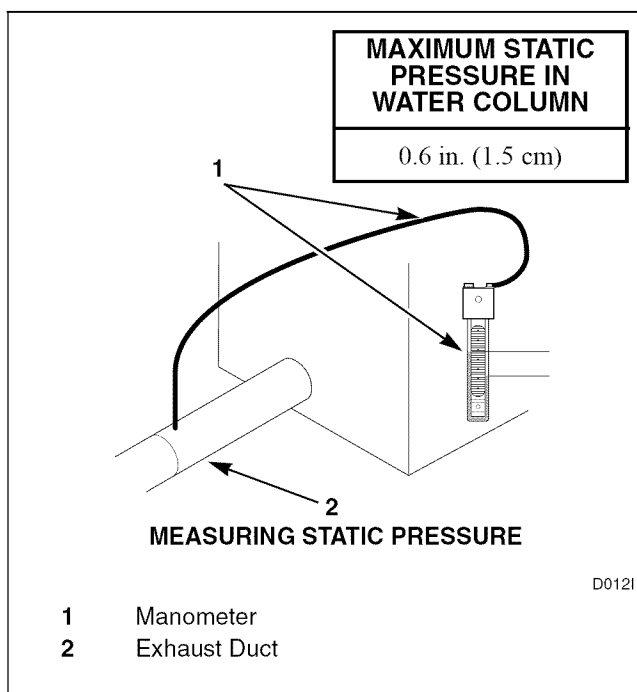

Figure 23
Static pressure in the dryer's exhaust duct should be no greater than that shown in *Figure 23*. (Check with dryer running and no load.)
**NOTE: This can be measured with a manometer placed on the exhaust duct approximately two feet (61 cm) from the dryer. Refer to *Figure 23*.**